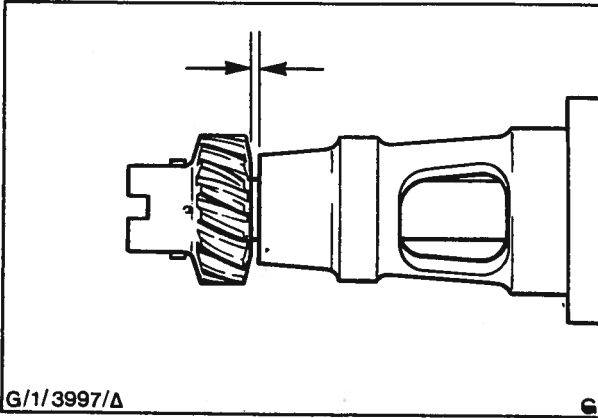

Fig. 7 - Skew Gear to Pump Body Clearance
Reassembly - Refer to Fig. 7
2. Press the skew gear onto the shaft until a clearance of 0,13 to 0,38 mm (0,005 to 0,015 in) is obtained between the gear and the pump body, with the rotor flush with the end plate face (Fig. 7).
Assembly - Refer to Fig. 7